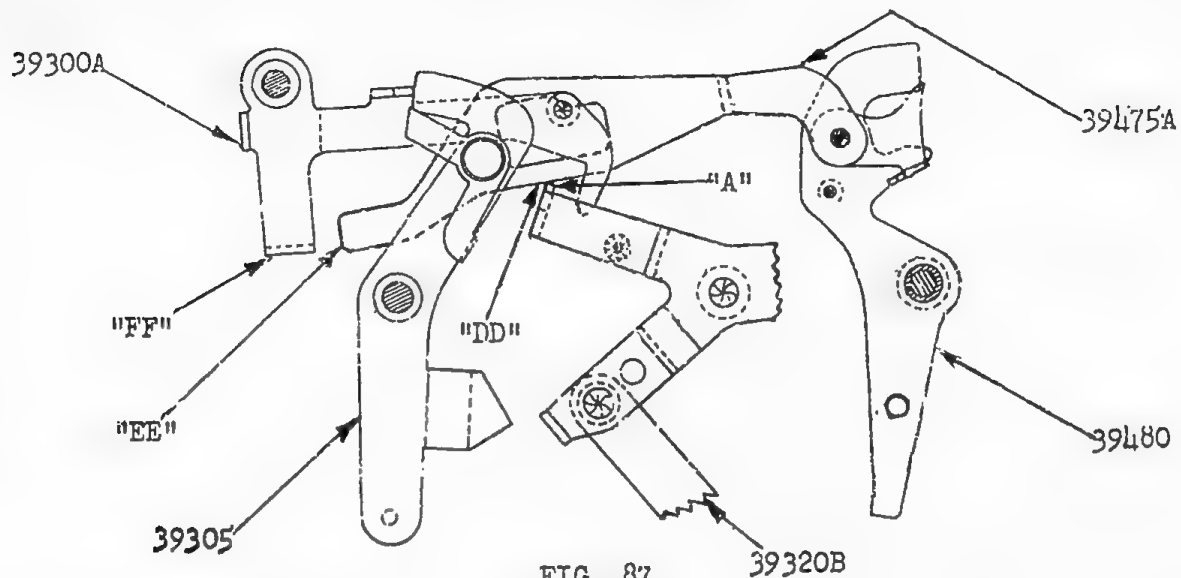

FIG. 87
1. (Fig. 87). The interlock mechanism to be described below is in the event that the Dividend Key is depressed during division. When the Division Key is depressed causing the Division